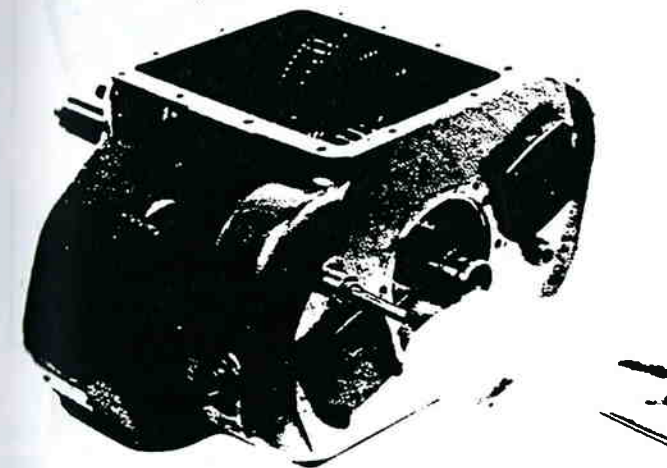

Figure 13-37. Withdrawing Idler Shaft.
5. Use impact puller to withdraw the idler shaft from case (figure 13-37).